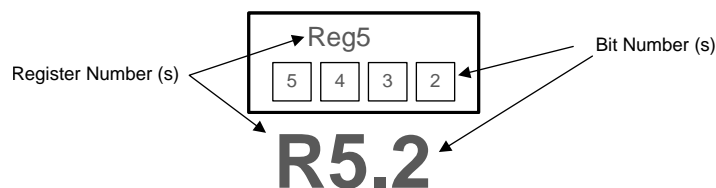

Figure 42. LMK03328 Register Reference Format
Figure 42 shows the method that this document employs to refer to an individual register bit or a grouping of register bits. If a drawing or text references an individual bit the format is to specify the register number first and the bit number second. The LMK03328 contains 124 registers that are 8 bits wide. The register addresses and the bit positions both begin with the number zero (0). A period separates the register address and bit address. The first bit in the register file is address 'R0.0' meaning that it is located in Register 0 and is bit position 0. The last bit in the register file is address 'R31.7' referring to the 8th bit of register address 31 (the 32nd register in the device). Figure 42 lists specific bit positions as a number contained within a box. A box with the register address encloses the group of boxes that represent the bits relevant to the specific device circuitry in context.